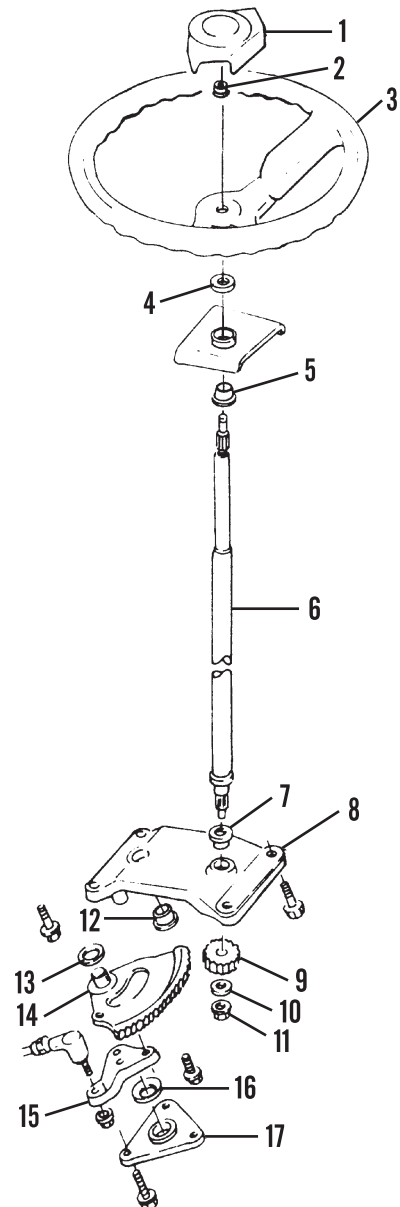

Fig. HN1-4—Exploded view of steering gear assembly.
To remove the steering shaft and gear assembly, remove the cover (1—Fig. HN1-4) and nut (2). Remove the steering wheel (3) and flat washer (4). Disconnect the drag link end and steering arm (15).